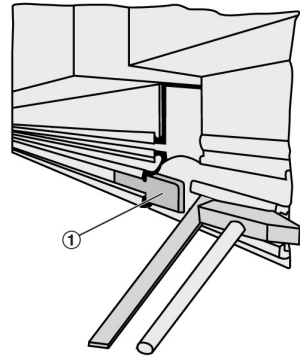

Fig. 9: Linking slot diffusers
3. ▶ The supplied alignment plates (Fig. 9/1) help you align slot diffusers for a continuous linear arrangement.